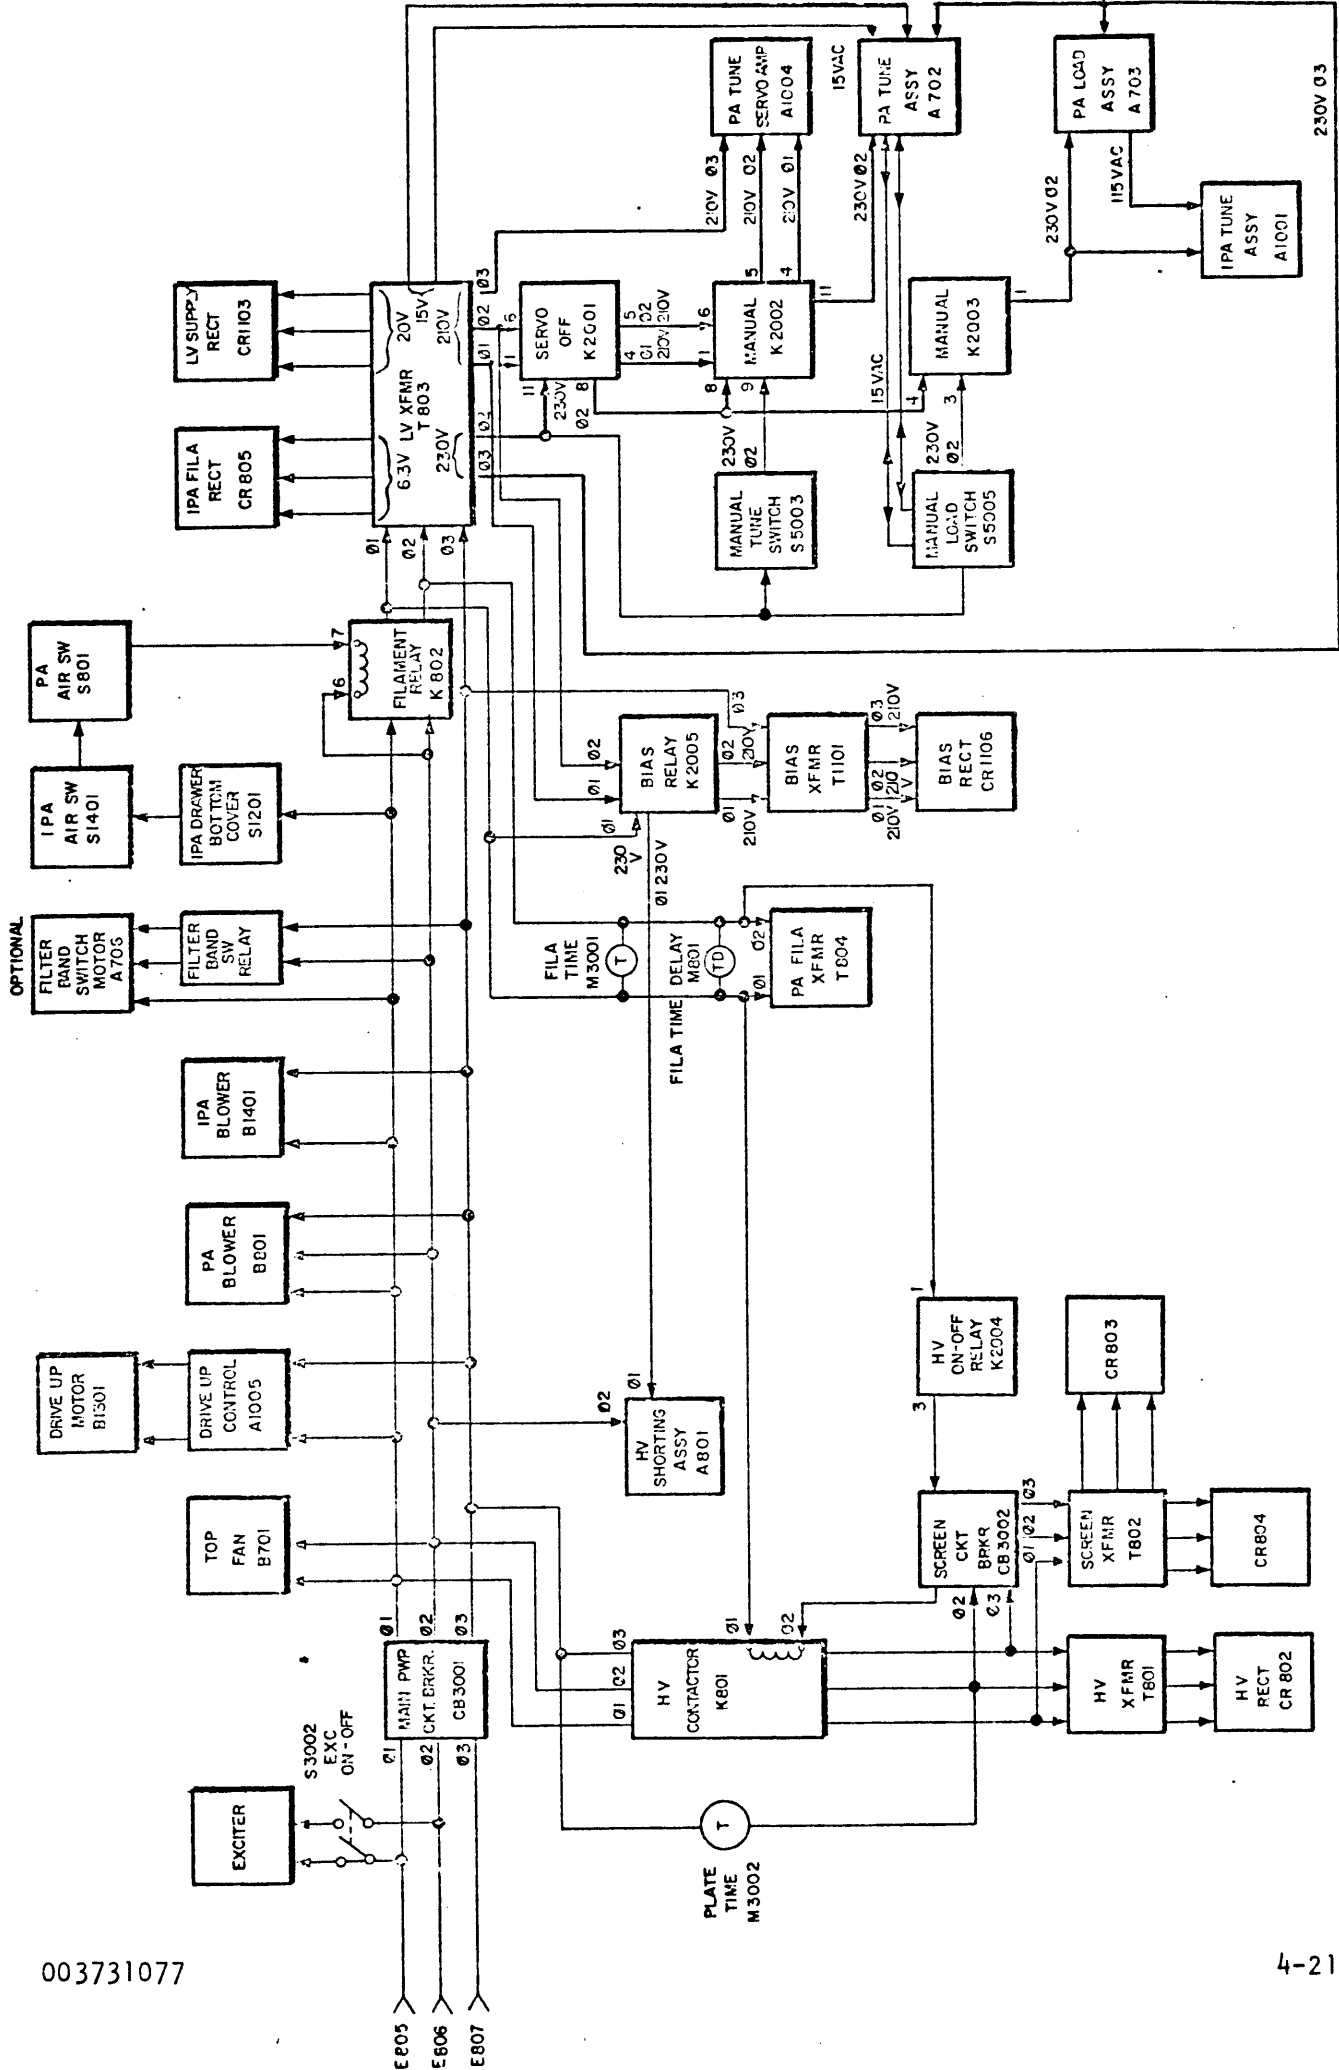

Figure 4-2. Simplified Diagram AC Power Distribution
#### 4-3. AC POWER DISTRIBUTION (See figures 4-2 and 7-1)
d. IPA SEARCH. (See figures 4-2, 7-1, 7-2, 7-3 and 7-4) Placing the MAN/AUTO switch S5002 in the AUTO position removes 24 volts from pin e of J2001, deenergizing manual relay A2001K6 on the tuning control assembly and the manual relays K2002 and K2003 in the exciter drawer.